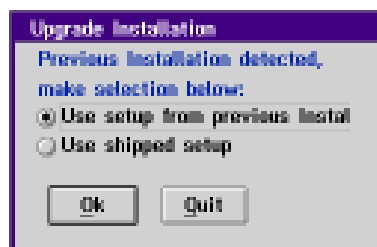
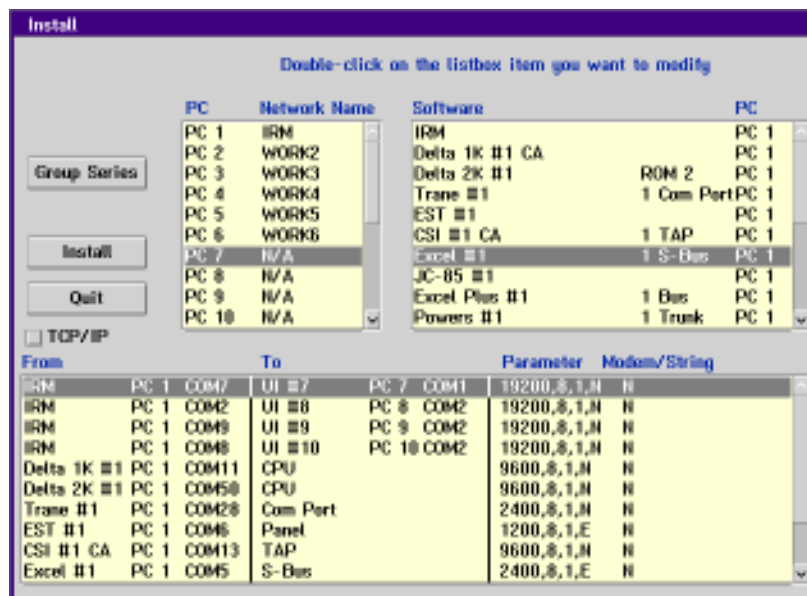
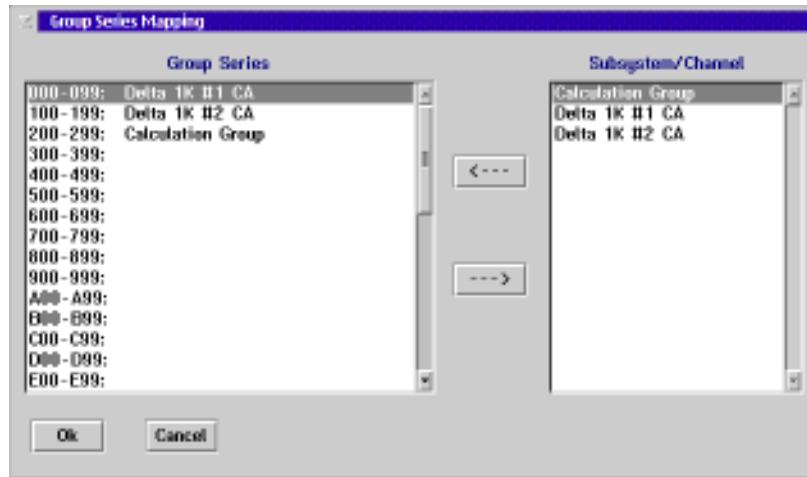

Figure 3-4. Upgrade Installation.
Figure 3-5. Install Dialog Box.
Figure 3-7. Group Series Mapping Dialog Box.
The file opens. If UNITY has been installed on the system before, the Upgrade Installation message box will appear (Figure 3-4). If this is a new installation, the Install dialog box appears (Figure 3-5). If this is a new installation, skip to Step 5.
If you are installing a new version of UNITY, you must choose the Used Shipped Setup radio button. If you are adding users, components, or subsystems, choose the Used Shipped Setup. If you are reinstalling the existing version and setup of UNITY, you may choose the Use Setup from Previous Install radio button. The Install dialog box will appear (Figure 3-5).
- 1) Double click on an item in the Software /PC list box in the Install dialog box. (See Figure 3-5.)
Refer to Figure 3-5. The Group Series Mapping dialog box appears (Figure 3-7).
- 1) **Double click on the first item in the PC/Network Name list box of the Install dialog box. Refer to Figure 3-5.**
- 1) Double click on an item from the From/To/Parameter/Modem/String list box of the Install Dialog Box. Refer to Figure 3-5.
- 1) Click  on the Install dialog box. Refer to Figure 3-5.